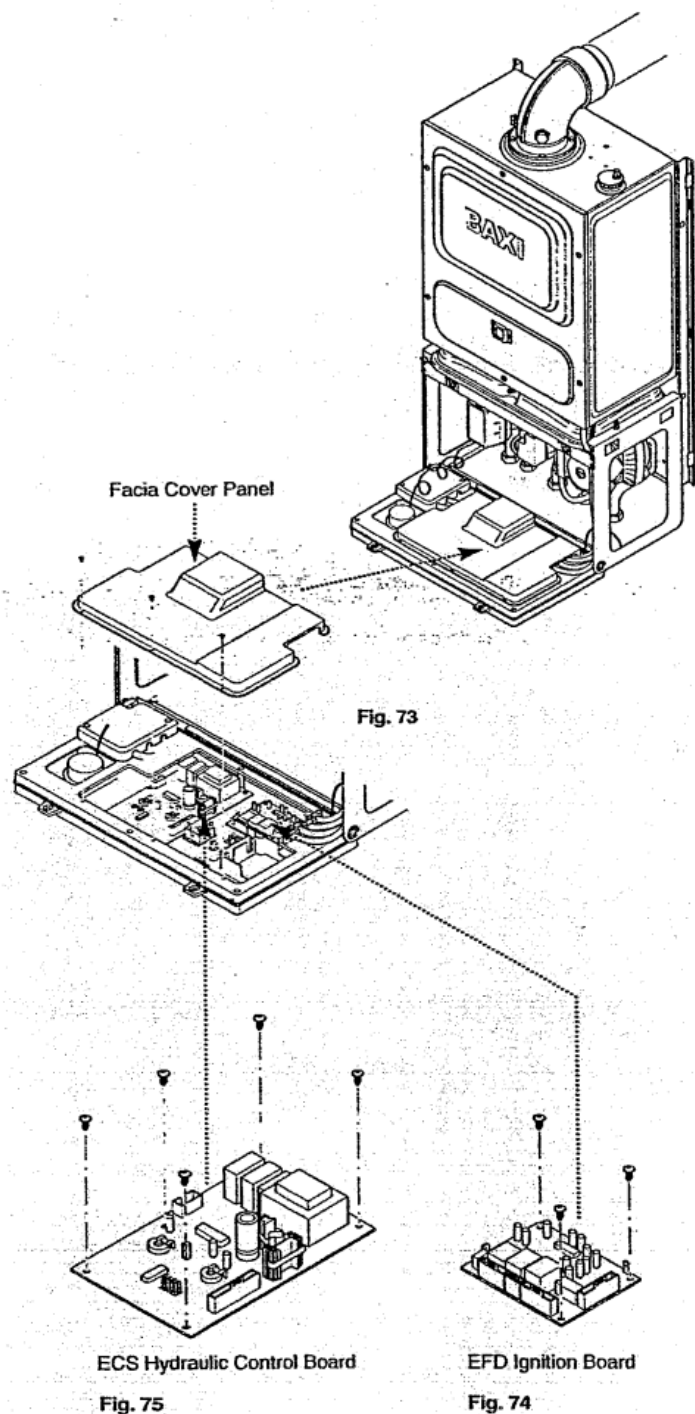

Fig. 73, 74, 75
1. Remove the facia cover panel by removing the securing screws and pulling it forward whilst lifting (Fig. 73).
1. Remove the facia cover by removing the securing screws and pulling it forwards whilst lifting (Fig. 73).